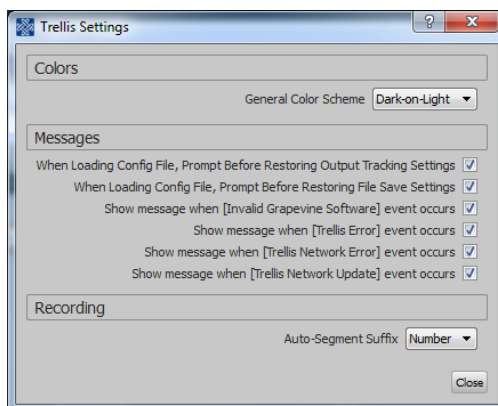
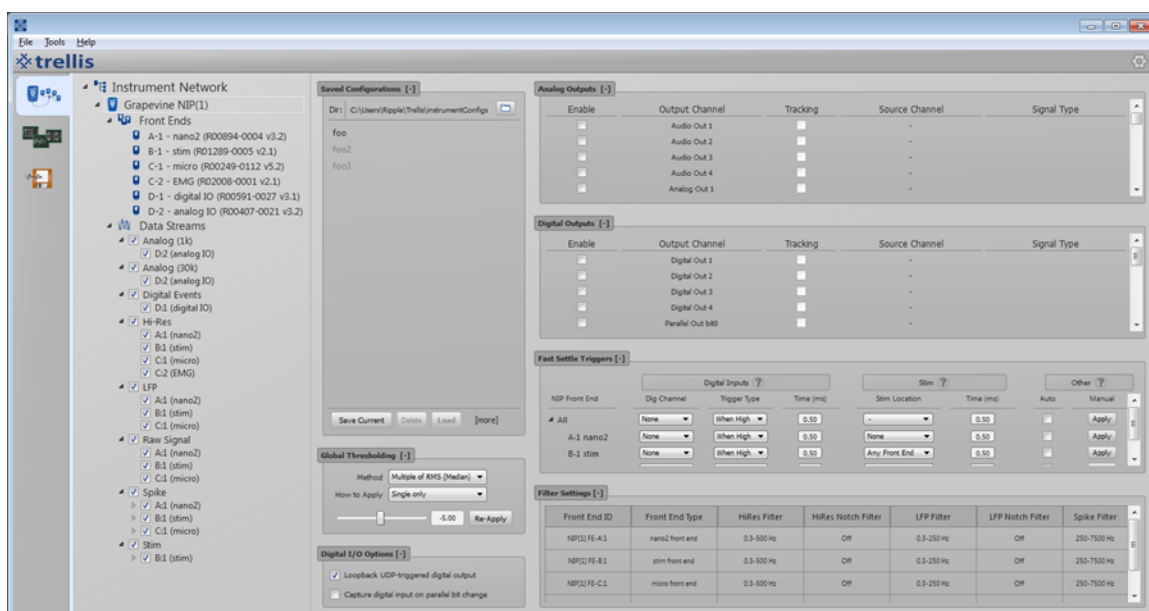

Figure 3-2 Trellis Settings window
Figure 3-7 Trellis Instruments – Explorer system configuration
The main Trellis program presents three tabs on the left side of the window (Instruments, Applications, and File Save) that provide access to different aspects of program functionality. The color scheme for Trellis and which messages are displayed can be set from the Trellis Settings window, as shown in Figure 3-2. These options can be accessed from the Tools menu or from the Settings icon located at the top right of the Instrument Configuration panel shown in Figure 3-7.
- Information about a Explorer system can be accessed by selecting the corresponding entity in the Instrument Network. Selecting the “Explorer Summit” item in the Instrument Network brings up an interface to configure the Explorer Summit, as shown in Figure 3-7.
Trellis automatically detects which Front Ends (FEs) are connected to the Explorer processor and displays the appropriate configuration panels, as shown in Figure 3-7. Each configuration panel can be expanded or collapsed by clicking the [+] or [-] symbol to the right of the panel title.